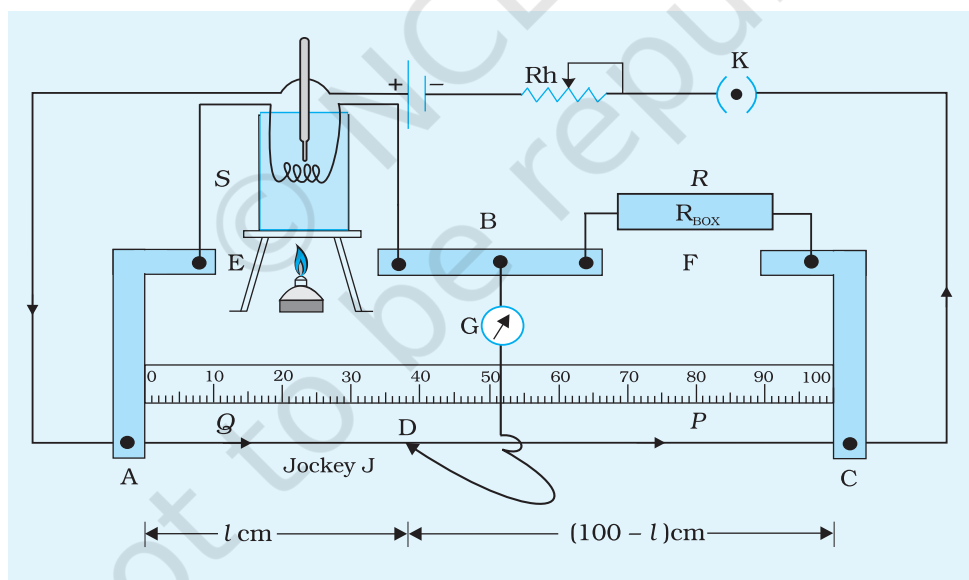

Fig. E 2.5
3. The resistance of a wire changes with temperature. You may study this by using a metre bridge. You may use a beaker with mustard oil, a suitable thermometer ($0-300^\circ\text{C}$) and resistance wire of known length. The experimental set-up shown in Fig. E 2.5 may be used.